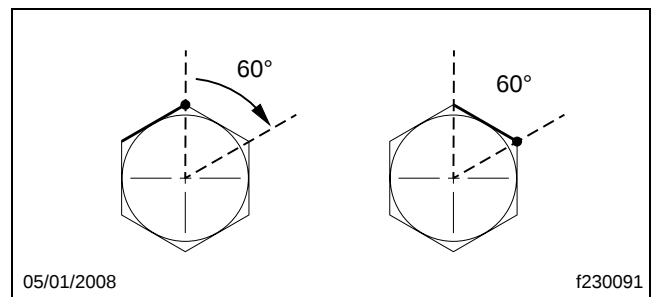

Fig. 4, Turning the Fitting One Flat (60 degrees)
16. Attach the lines to the plumbing adaptors on the steering gear, while ensuring that the lines will not touch the axle or each other once installed. Snug the connection with a wrench to ensure the fittings are seated, which is equivalent to approximately 2 lbf·ft (3 N·m). Then, using a backup wrench to keep the adaptors from turning, tighten the return and supply hoses by 1 flat of the tube nut (60 degrees). See **Fig. 4**.